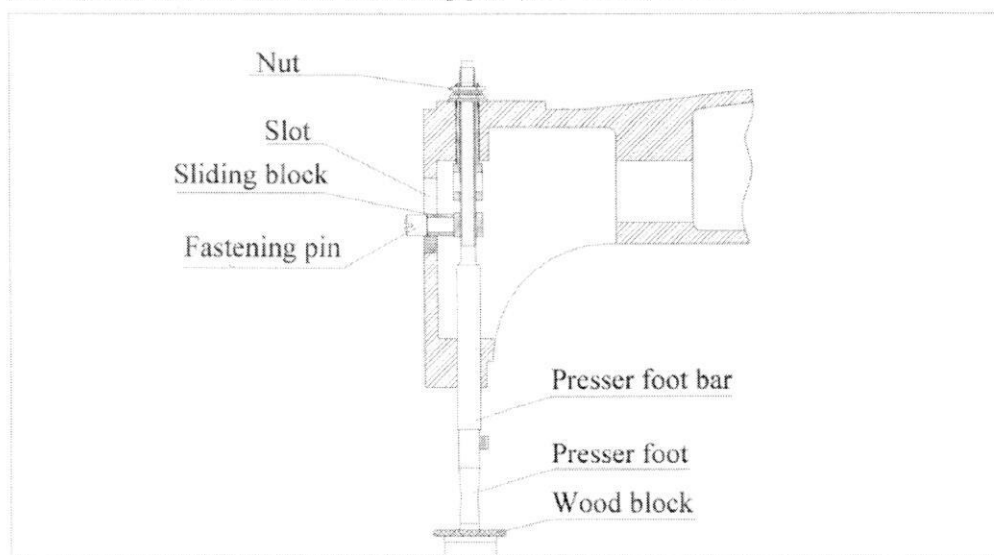

Fig.6
4.6 Adjustment setting of the space between presser foot and needle plate (Fig.6)